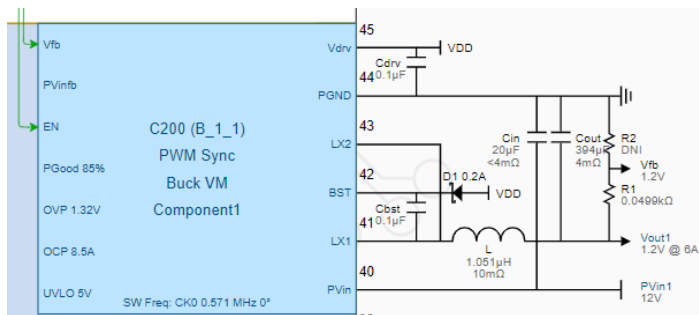
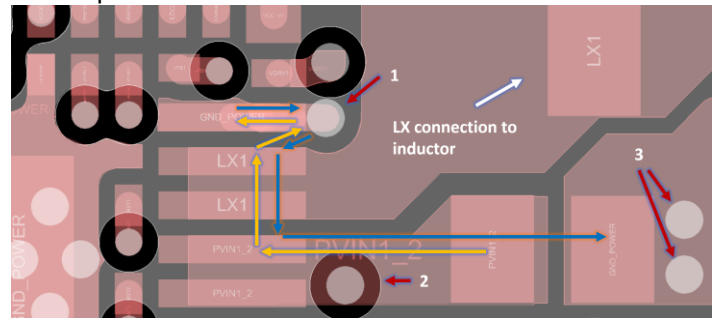

Figure 3: WebAmP schematic of C200
Figure 7: Same layout as Figure 5 but without vias-in-pad
Note that current does not actually flow in this loop at any given time (except during a very short period when the high-side turn-on edge charges the low-side MOSFET C_{OSS} and drives its body diode reverse recovery current). Instead, all the current branches in this loop have large di/dt. They have fast current edges during the switching transitions, and these branches’ *di/dt* arrow directions (not absolute current directions) form a complete loop. If this loop area is large, it will radiate di/dt noise, and form a large stray inductance in series with the bypass capacitor. This inductance will cause ringing at the AmP half-bridge – i.e. across the PVin and PGND terminals as seen in Figure 3. If severe, this ringing can cause unpredictable behavior.
The Source pin of the low-side MOSFET, labeled as “PGND” in Figure 3, does not have an internal connection to ground. It requires a low inductance connection to the ground plane. Two vias-in-pad are recommended. Vias-in-pads with 6 mil or 0.15 mm drill diameters will work. (Figure 4). If vias-in-pad are not preferred, refer to Figure 7.
Figure 7 shows an example layout for a PCB design without vias-in-pad.
- High side: connections are to the BST2/3/6/7 pin (BST pin in Figure 3) to LX
- Low side: connections are to the BST1/4/5/8 pin (Vdrv pin in Figure 3) to the ground plane
The voltage feedback sense connection from the output VOUT to the C200 feedback input (bottom of R1 in Figure 3) must be at the output capacitor closest to the load. Connecting it closer to the inductor will degrade the load transient performance. In the schematic and PCB layout, the voltage feedback trace is the same net as VOUT; care must be taken in routing it to ensure there is only one connection point: to the last output capacitor. Figure 8 shows the use of a separate layer (blue trace) so the single point connection is at a via close to the output capacitor closest to the load. Do not simply connect it to the VOUT copper island at a random point.